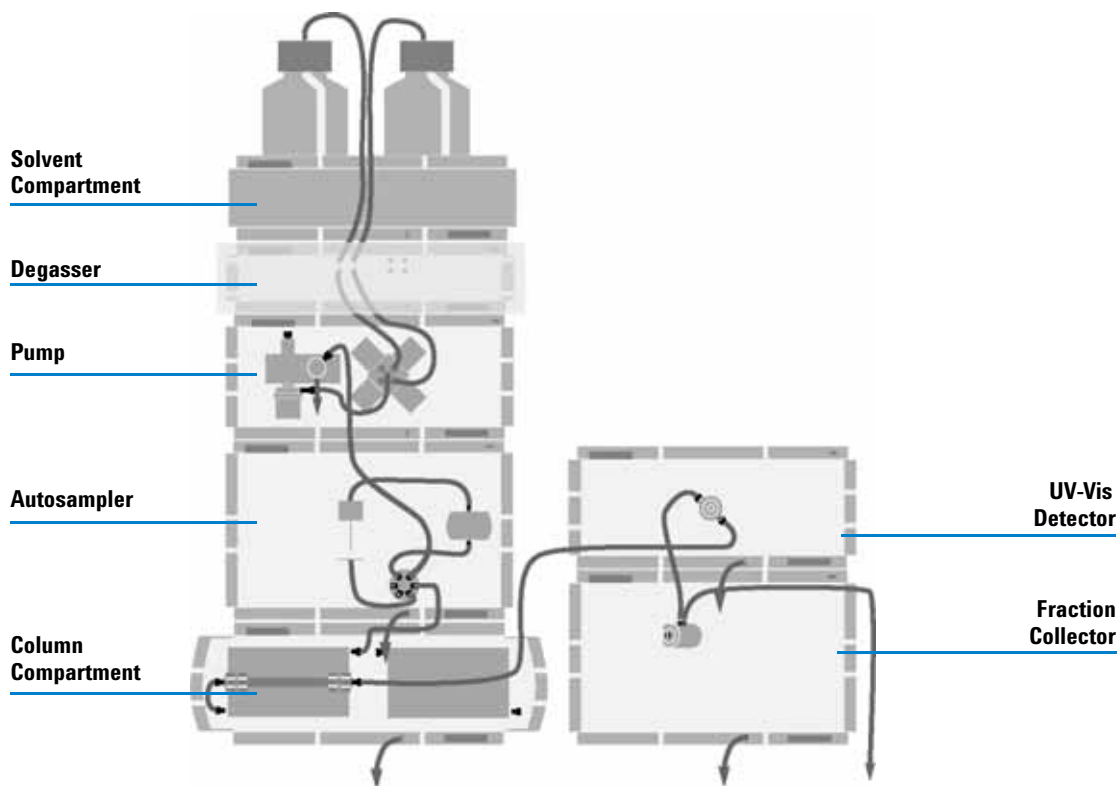
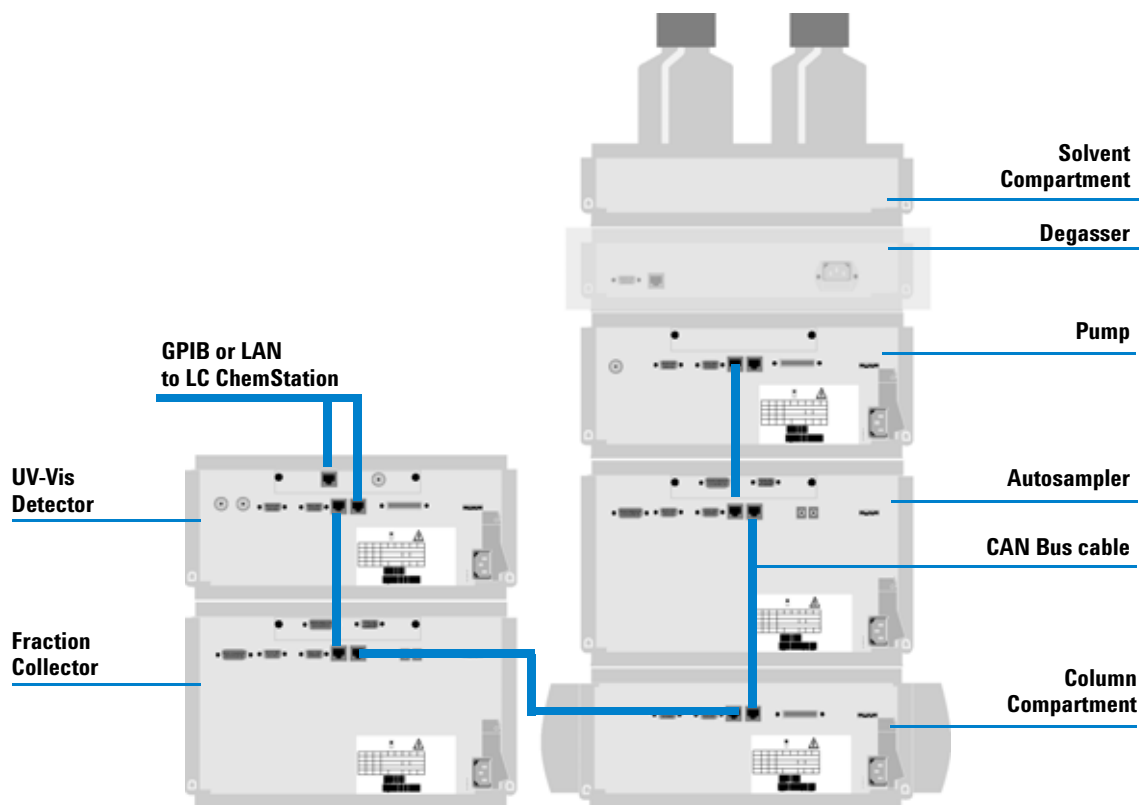

Figure 1 Recommended Stack Configuration - Fraction Collector in an Analytical System (Front View)
Figure 2 Recommended Stack Configuration - Fraction Collector in an Analytical System (Rear View)
- Figure 1 and Figure 2 on page 22 show the configuration recommended for the fraction collector in an analytical scale system.